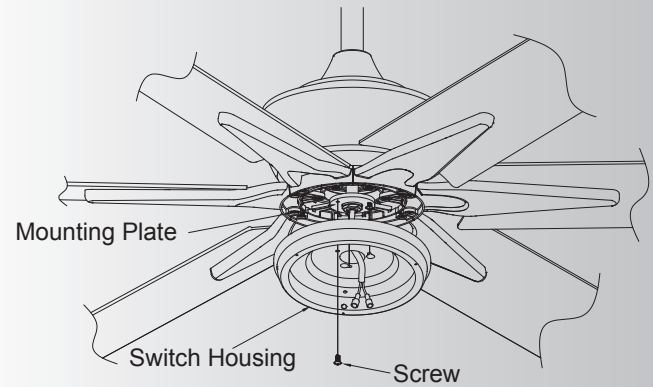

Fig. 19
Step 1. Remove one of the three screws and loosen the other two (do not remove). Place the two slot holes on the switch housing over the 2 screws previously loosened from the mounting ring. Rotate the switch housing until it locks in place at the narrow end of the key holes. Securely by tightening the 2 screws previously loosened and the one previously removed. (Fig. 19)